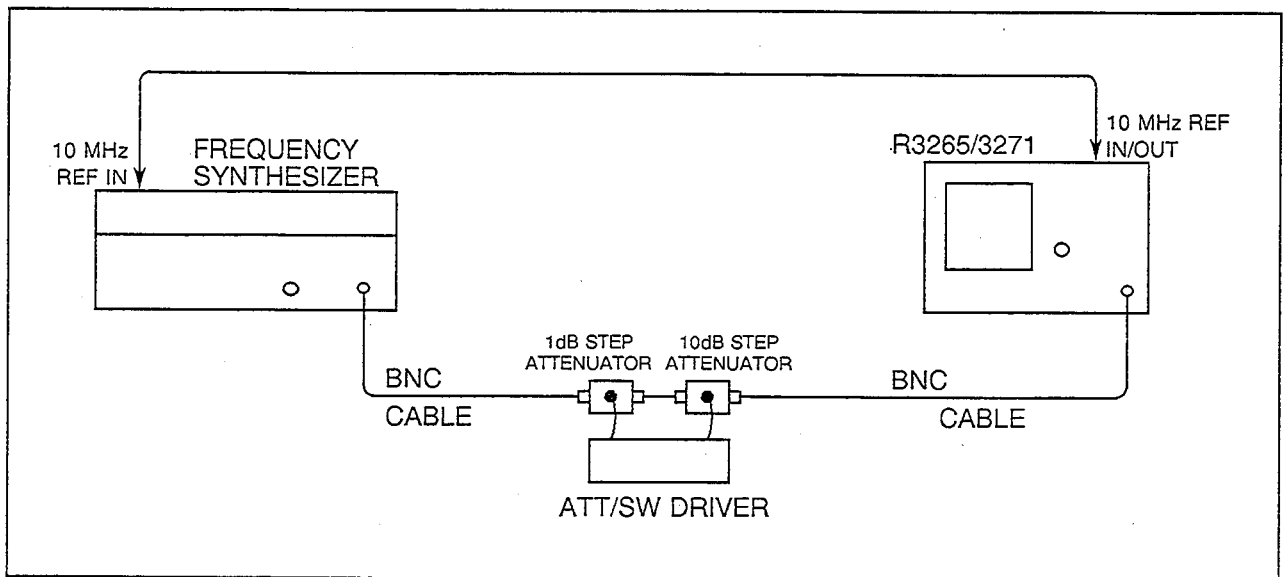

Figure 4-16 Scale Fidelity Test Setup
This test measures display accuracy for 1 dB, 10 dB log scales, X1, X2 linear scales and 10 dB QP mode log scale. All scales are measured with 0 dBm reference signal. Figure 4-16 illustrates the measurement system of this test. The frequency synthesizer is phase-locked to the 10 MHz reference source of the spectrum analyzer.
- (1) Connect the equipment as shown in Figure 4-16.
- (2) Set the frequency synthesizer controls as follows: